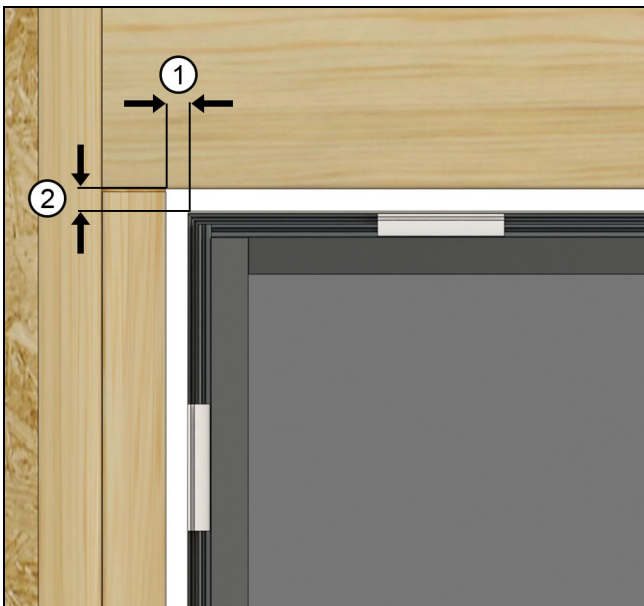

Figure 2 RO Width and Height clearance
1. Rough opening (RO) width may be up to 1 1/8" (29) wider (3/4" maximum on each side) than the outside measurement (OM) of the frame. The RO height may be a maximum of 3/4" taller than the OM of the frame. See Figure 2.